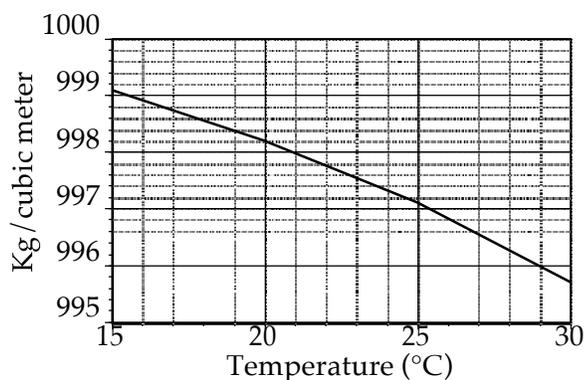

Figure 1. Density of water vs. temperature.
- 1) Use Figure 1 to estimate the expected mass of 990  $\mu\text{L}$  of distilled water (at room temperature—check the thermometer), and record this value in a spreadsheet or lab notebook.
- 3) Compare the mean mass of water (that you measured) with the expected value (from Fig.1) to determine the accuracy of your measurements. If the error is more than 5%, place colored lab tape on the pipette and record the error (write on the tape, not on the pipette) with a Sharpie. Assume that the mass is correct and that errors are associated with the pipettors or, more likely, your pipetting technique.